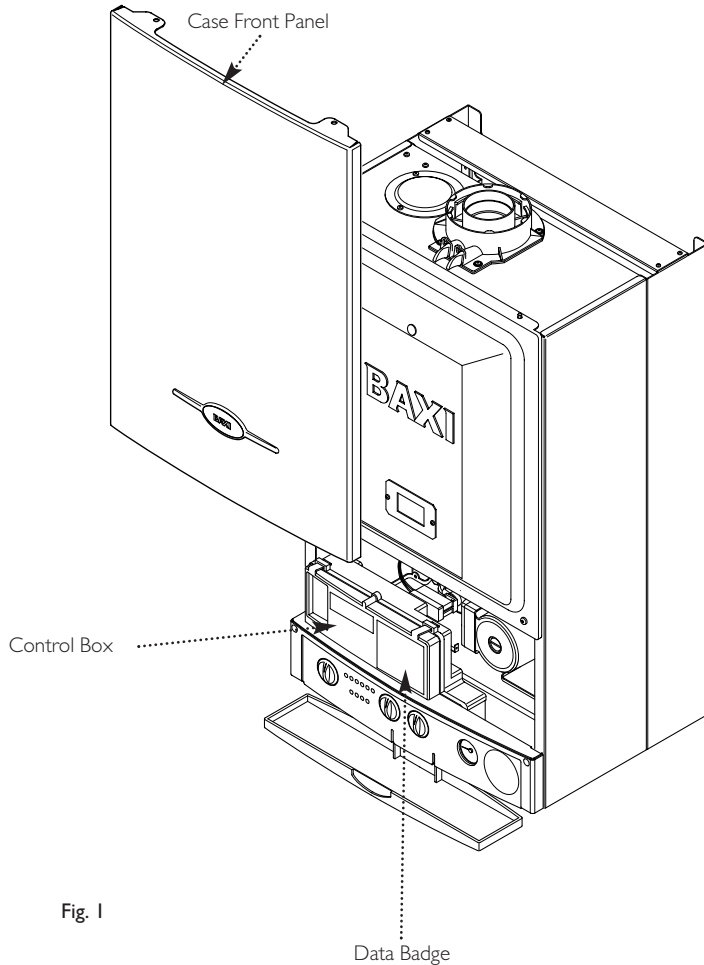

Fig. 1
6. The boiler data badge gives details of the model, serial number and Gas Council number and is situated on the control box. It is visible when the case front panel is removed (Fig. 1).